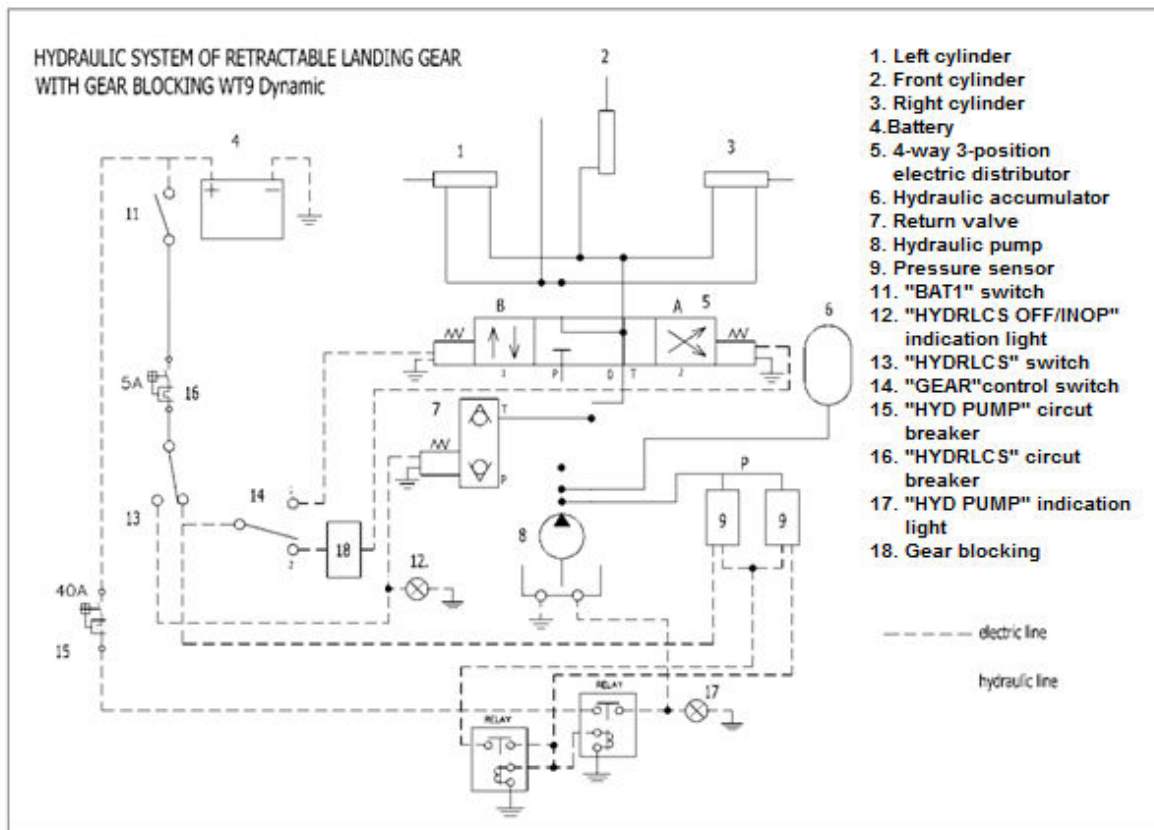

Fig. 11 The hydraulic system schematic of the retractable undercarriage
The hydraulic system schematic of the retractable undercarriage is shown in the following figure (fig.11). The power is supplied from the battery over “**BAT1**” switch (11) to the switch (13) “**HYDR LCS**”. This switch “**HYDR LCS**” in the up position on the instrument panel, which switch on the hydraulic pump by help of the pressure switch and the relay. The pressure switch switches off the power after reaching the desired pressure. The switch (13) “**HYDR LCS**” in the down position switches on the emergency extension of the undercarriage. The emergency extension will happen too, when “**BAT1**” switch is off. The emergency extension of the undercarriage is carried out by own mass with the help of a three-way valve. The drag stay is arrested with help of the springs. The other switch (14) “**GEAR UP/DOWN**” controls the direction of the pressure fluid movement for extension or retraction of the undercarriage. The pressure fluid proceeds via the three-way valve to the one or another side of the hydraulic face ram. Both sides of the hydraulic face ram are without pressure during the emergency extension of the undercarriage.